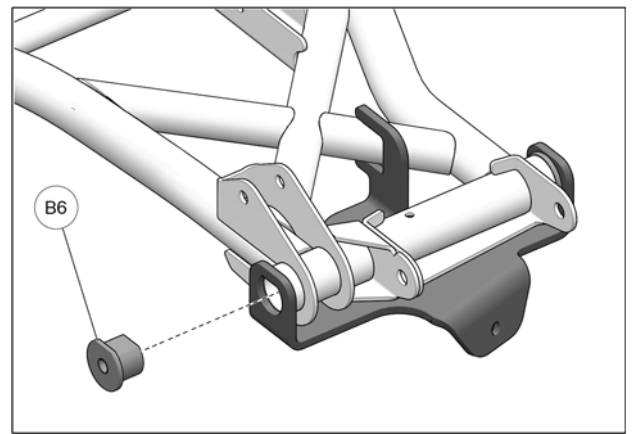

Fig. 7
7. Insert the threaded T-Bushing (B6) through anchor bracket, and in suspension arm. See Fig. 7